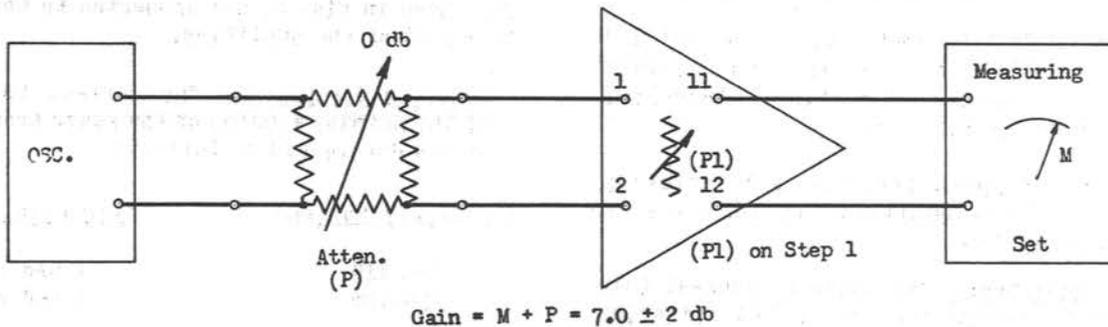

Fig. 2 - 106A Amplifier Gain Testing Arrangement - 600-ohm Input - 600-ohm Output - Minimum Gain
(1) Reconnect the input of the measuring set, readjust the attenuator P for 0 db loss and set potentiometer P1 in the amplifier on step 1 as indicated in Fig. 2.
(2) Obtain reading (M) on measuring set.